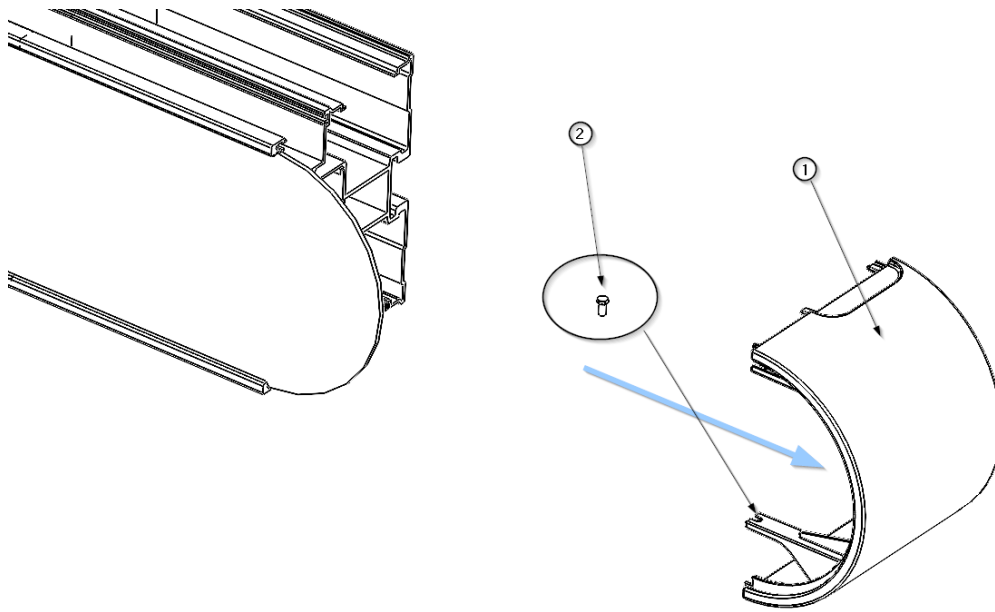

Fig. 4 Removal of side walls
- Remove the M4 x 10 screw ② DIN 7505 and slide the end cap ① in the direction of the equipment chassis to remove it as shown in figure 4.
- To refit the end cap ① simply push it into position in the direction of the chassis until the end cap stops and fit the fixing screw ②.